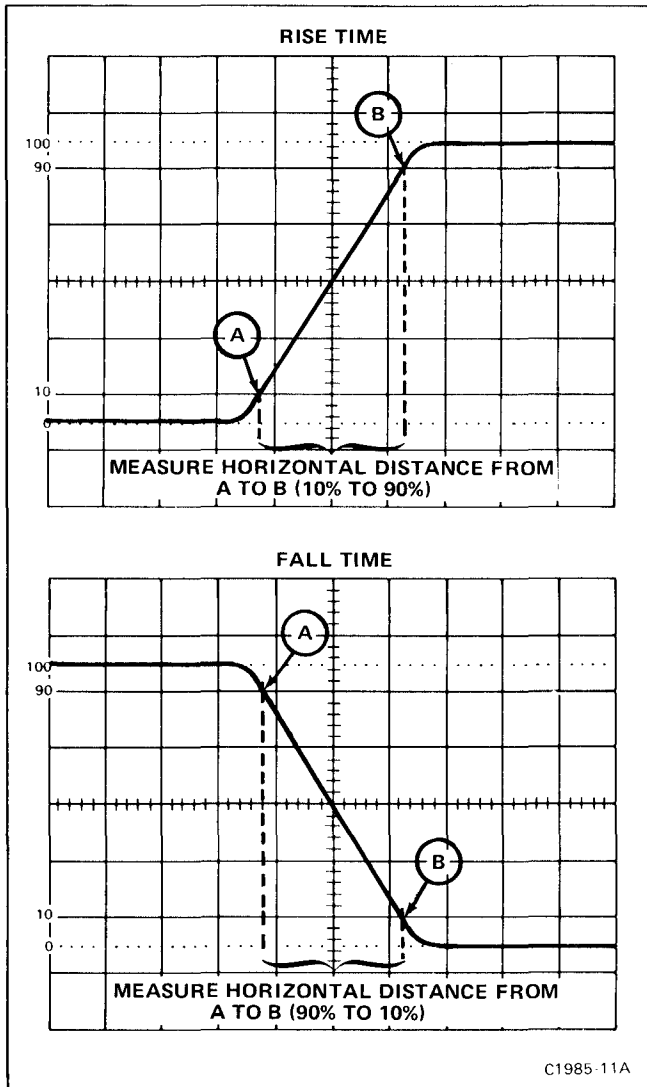

Figure 1-8. Measuring the rise time and fall time of a displayed waveform.
6. Set the TIME/DIV switch and POSITION control to display the rising or falling portion of the waveform within the center 8 graticule divisions as shown in Figure 1-8 (see General Operating Information in this section for discussion of timing measurement accuracy).
7. Determine rise time or fall time by measuring the horizontal distance in divisions between the point on the rising or falling portion of the waveform that is 10% and the point that is 90% of the total display amplitude (see Fig. 1-8).
Example: Assume that the horizontal distance from the 10 to 90% points is 2.5 divisions and the TIME/DIV switch setting is  $.1 \mu s$  (see Fig. 1-8).